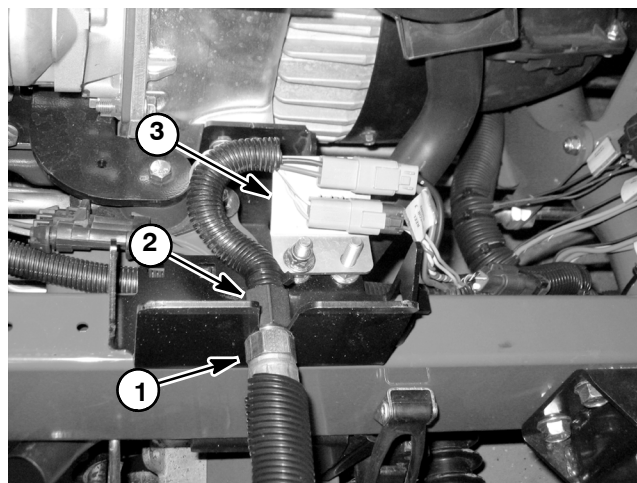

Figure 95
8. If cutting reel motor is to be removed from machine, disconnect reel motor cable from machine wire harness (Figs. 95 and 96):
- B. Disconnect two (2) motor cable connectors from machine wire harness.